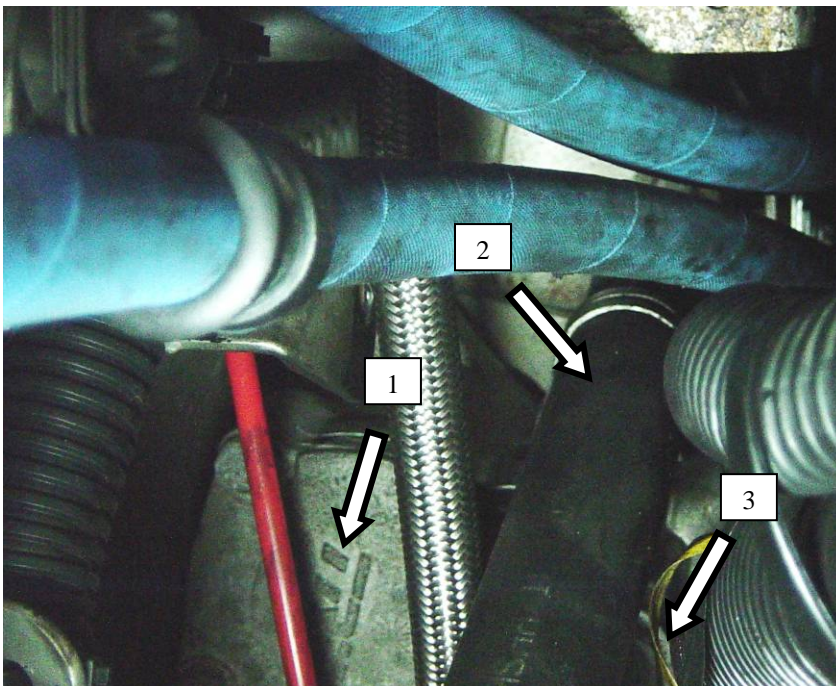
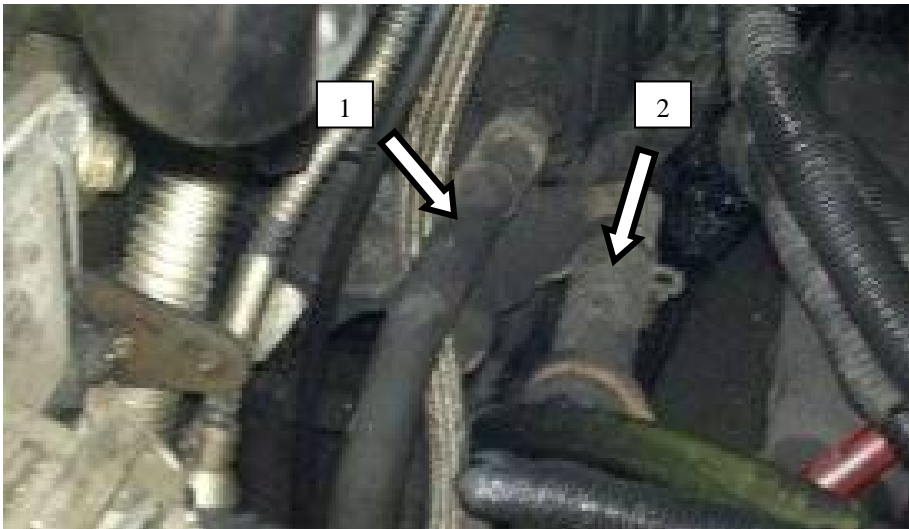

Figure 4 – Power Steering Pump with Suction Line on Top
Figure 5 – Power Steering Pump with Pressure Line on Top
One pump should have the letters TRW visible on the forward facing surface of the pump (1) however the main identifier is the suction line is on top (2) and the pressure line is on the bottom (3) See Figure 4. The second version **does not** have TRW on the pump, the pressure line is on top (1) and the suction line is on the bottom (2). See figure 5.